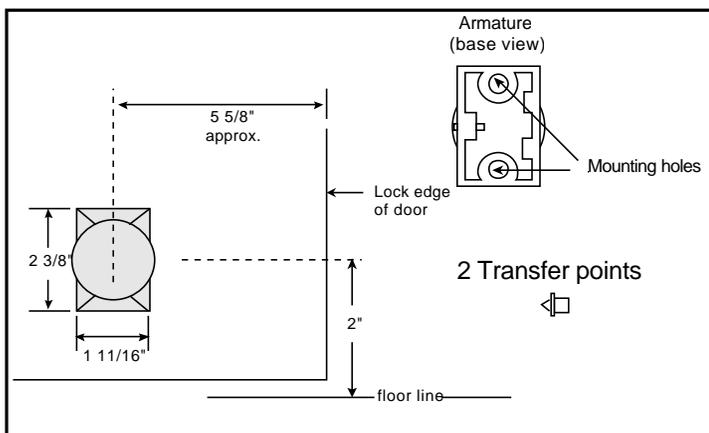

Figure 5. Armature Mounting
**NOTE:** Armature assembly must be mounted vertically (Figure 5) to obtain correct alignment with the electromagnet.
- Place the transfer marking points in the armature mounting holes (Figure 5).